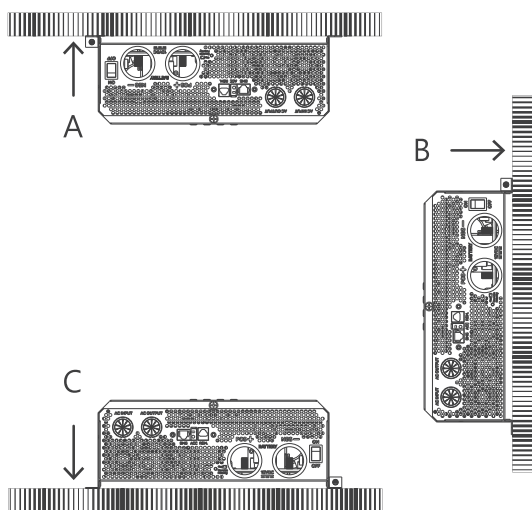

Figure 6 Approved Mounting Orientations
2. Select an appropriate mounting location and orientation (see Figure 6). To meet regulatory requirements, for use in on-land applications, the RICH SOLAR NOVA must be mounted in one of the following orientations: